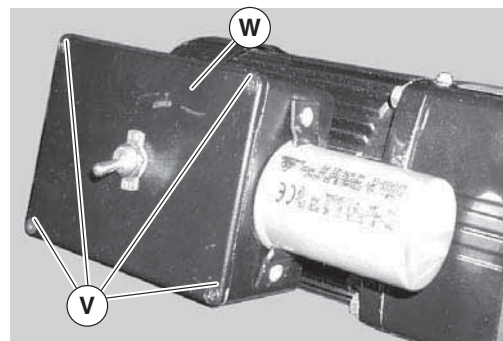

Figure 13
- a. Loosen terminal box screws (Figure 13, item V) and remove cover (W).